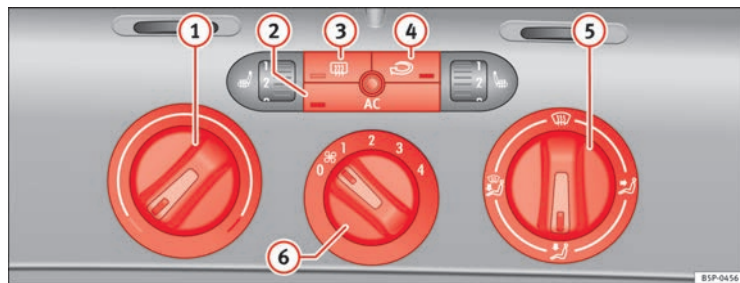

Fig. 127 On the dash panel: Climatic controls
- Use the knobs ⇒ fig. 127 ① and ⑤ and control ⑥ to set the temperature, air distribution and blower speed.
- To switch a function on or off, press the appropriate button ②, ③ or ④. When the function is activated, the display window in the lower corner of the button is lit.
- ① Temperature selector ⇒ page 157
- ② AC button – Heating, ventilation and air-conditioning system on/off ⇒ page 157
- ③ button – Heated rear window The heating will be switched off automatically approximately 20 minutes after switching on. It can also be switched off beforehand by pushing the button.
- ④ – Air recirculation mode ⇒ page 158
- ⑤ Air distribution control ⇒ page 157
- ⑥ Blower switch. There are four speed settings for the air flow. The air flow should always be set at the lowest speed when driving slowly.
- Switch on the air conditioner using the button → fig. 127 .